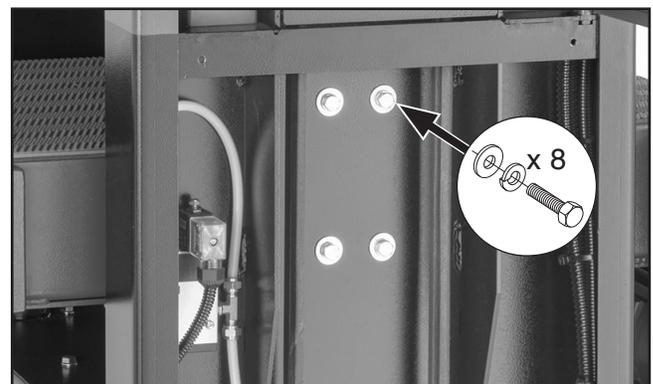
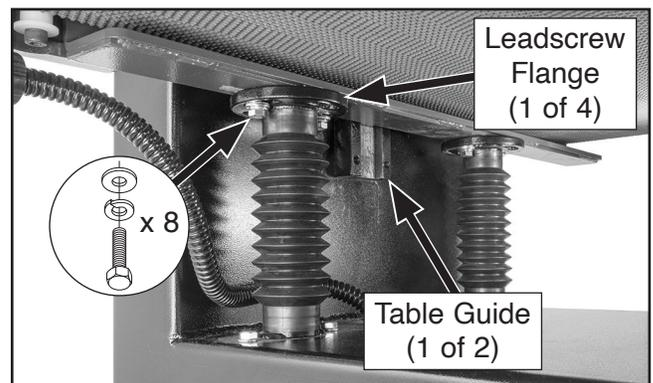

Figure 109. Location of table guide hex bolts and lock washers.
Figure 110. Location of table guides and leadscrew flanges.
- Remove (8) hex bolts and washers shown in **Figure 109** to remove left and right table guides (see **Figure 110**).
- Mark all four leadscrew flange positions, then remove all hex bolts and washers from flanges (see **Figure 110**). Try not to turn flanges during following steps.